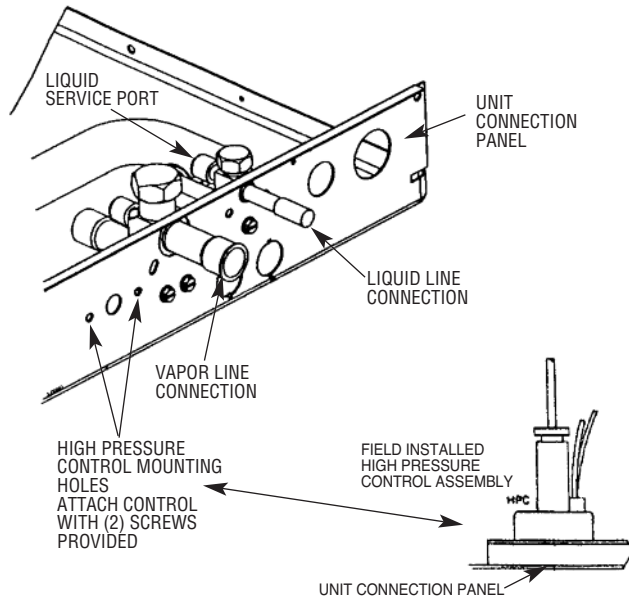

FIGURE 3. INSTALLING CONTROL
2. Position the high pressure control in the existing holes in the connection panel using the two screws provided. See Figure 3.